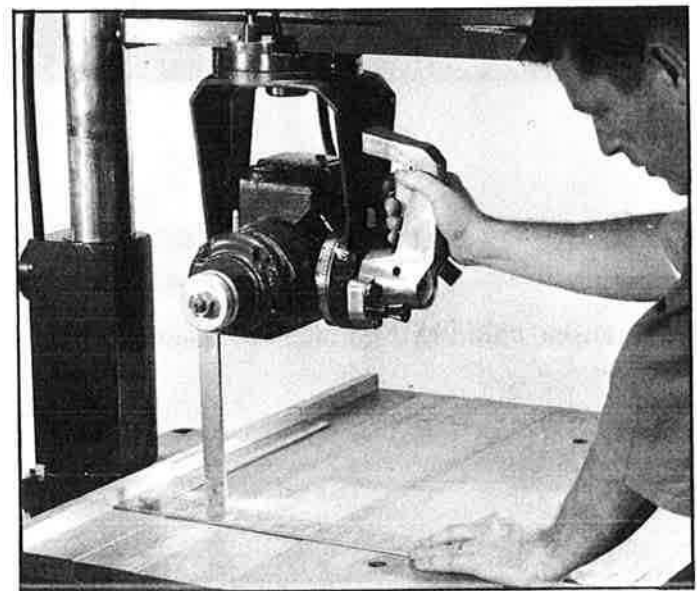

Fig. 26.
1. Remove saw blade from the cuttinghead and insert wrench in place of blade, as shown in Fig. 26.
2. Place a steel square against fence, as shown in Fig. 26, and pull cuttinghead along square. If the cuttinghead does not travel parallel to the square, the following adjustment is necessary.